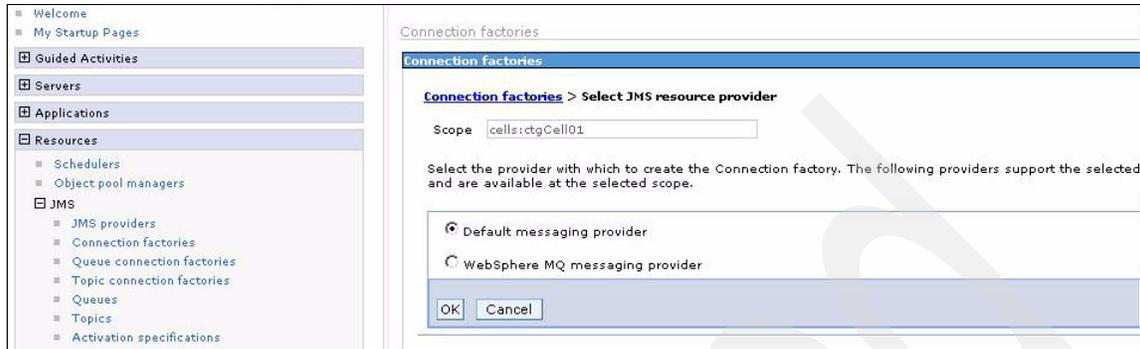

Figure A-38 New connection factory
- Verify that the Default Messaging Provider is selected and click **OK** (see Figure A-38).